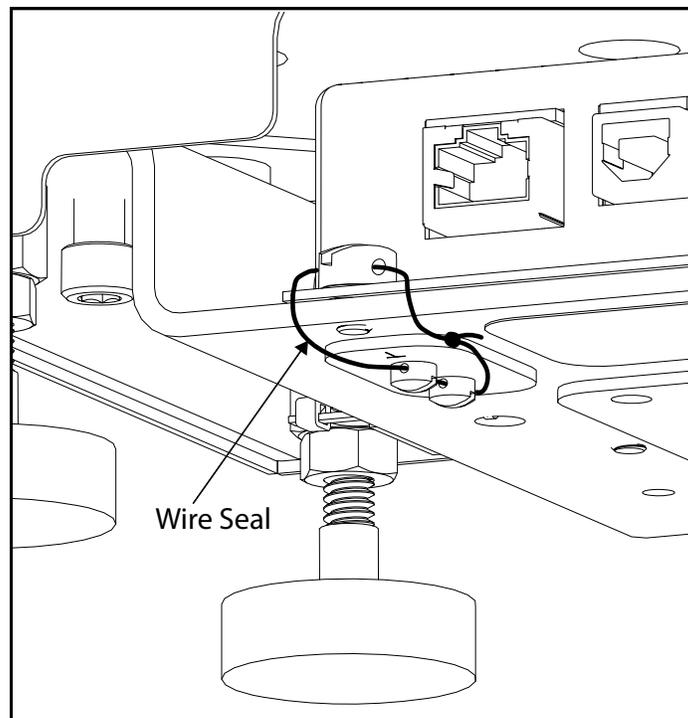

Figure 6-12. Wire Seal Location
2. Guide sealing wire through the screws over and under the sealing plate (see Figure 6-12).